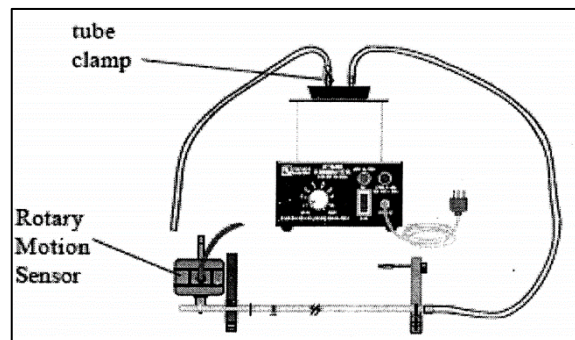

Figure 12 Connecting the tubing from the Steam Generator to the Thermal Expansion Apparatus.
3. Cut and place the plastic tubing (preferably clear) over both ports on the top of the lid covering the Steam Generator (see Figure 12). [Note: Cut the tubing enough to allow it to reach the rod on the apparatus, but keep the tubing as short as possible, to prevent kinks and maximize rapid heat transfer.] Plug one end off with a plastic tube clamp. Connect the plastic tubing on the other port to one end of the metal rod (at the labelled end block, away from the RMS).
5. Turn on the Steam Generator and wait for it to warm up. When you first hear a gurgle sound (but before the steam travels through the tubing), click the START button on DataStudio to begin recording the temperature (see Figure 12). Steam will begin flowing through the rod shortly thereafter. As steam begins to flow, watch the temperature rise in the DataStudio Graph display as the rod heats. When the temperature reading stabilizes, record the temperature change ΔT . Also, record the expansion of the rod's length ΔL as indicated by the position displacement ΔX (in mm).